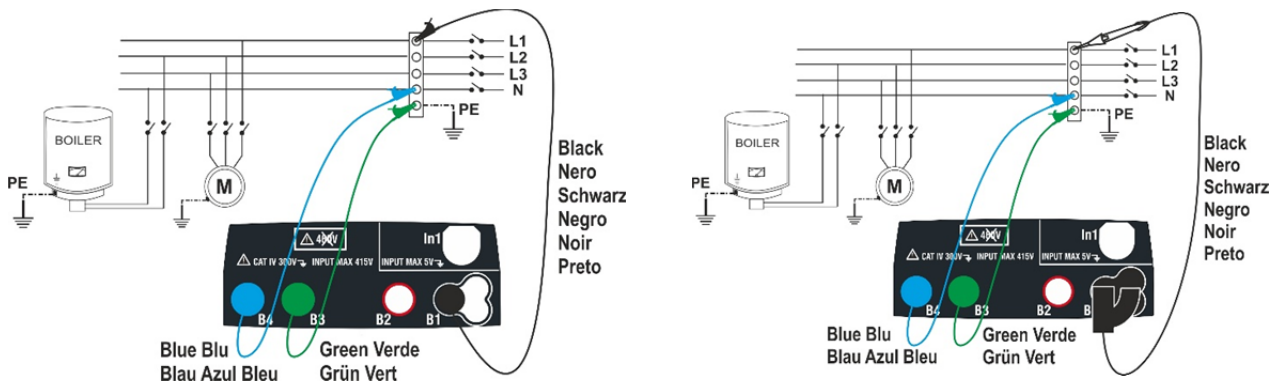

Fig. 10: Insulation test between L-PE and N-PE by means of single cables and remote lead
5. Connect the alligator clips and/or test leads and/or remote lead to the ends of the conductors to be tested as in Fig. 10 and Fig. 11